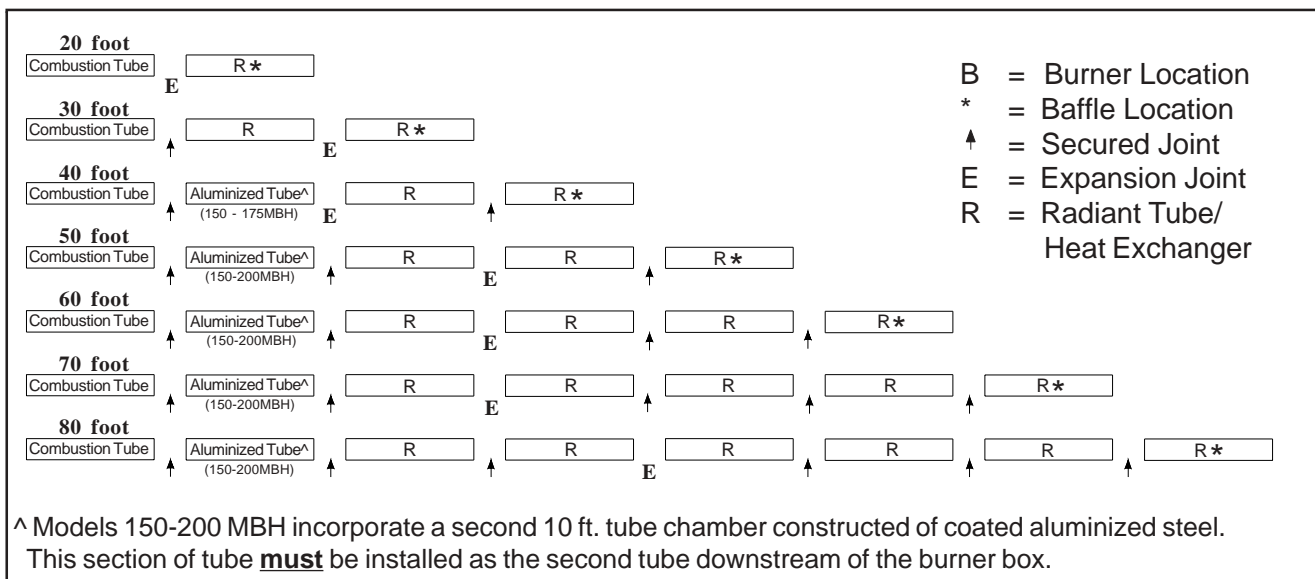

Fig. 2-18
3. Secure reflectors together with sheet metal screws (field supplied) at points indicated by arrows (see figure 2-18). Make sure to leave an expansion joint.